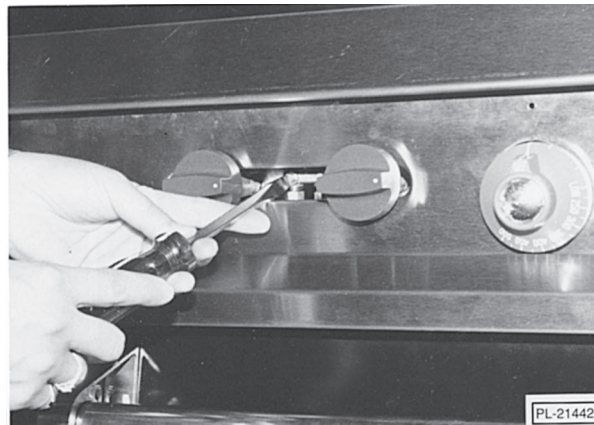

Fig. 3
Top Burners: To adjust pilot flame height of the unit top burners, locate the pilot adjustment screws found on the front manifold pipe. It is not necessary to remove the manifold cover, as adjustment access holes have been provided in the panel. With screwdriver, turn the adjustment screw of the pilot valve experiencing the pilot flame height problems (Fig. 3). Rotate the screw clockwise to decrease and counterclockwise to increase the flame height.
After pilot is lit, adjust pilot burner flame, if necessary, by rotating the adjustment screw of the pilot valve located on the manifold pipe (see Fig. 3).
2. Adjust the burner flame, if necessary, by rotating the adjustment screw of the pilot valve located on the manifold pipe (see Fig. 3). Rotate the screw clockwise to decrease and counterclockwise to increase the flame.